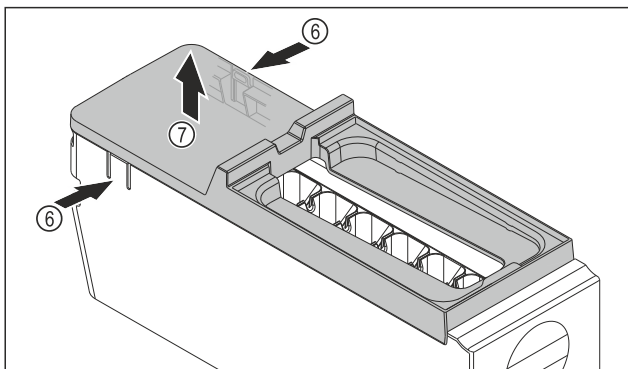

Fig. 77
- ▶ Removing the EasyTwist-Ice body cover: Push the tabs Fig. 77 (6) on both sides of the EasyTwist-Ice body with one hand.
- ▶ Use the other hand to remove the cover Fig. 77 (7) upwards.